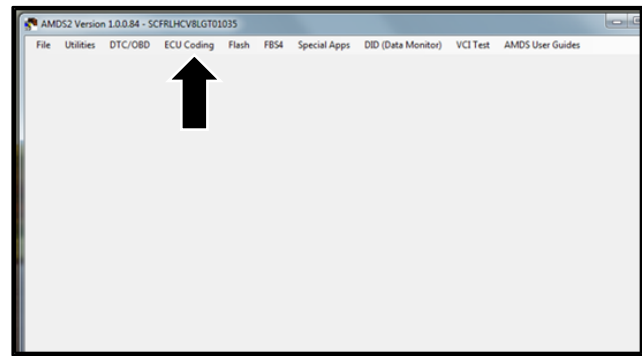

Figure 1
- In AMDS 2.0 click “ECU Coding” (refer to Figure 1).